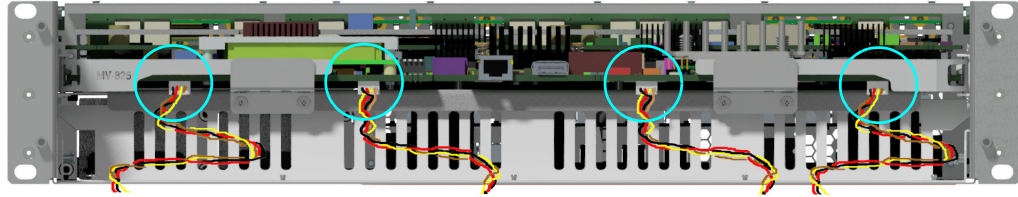

Fig. 2-4: Fan Supply Wires Connected to front of the Main Card
- 1 Check that the fan supply wires are all connected to the front edge of the MV-825-RTR main card. See Figure 2-4.